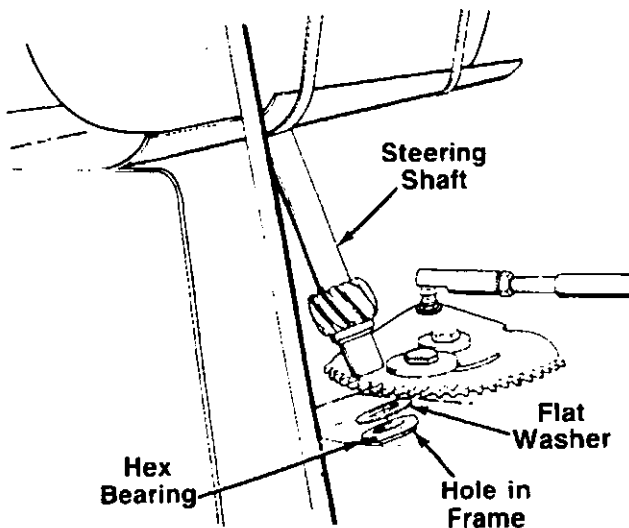

FIGURE 5.
- ← 2. Insert the hex bearing into the hole in the frame shown in figure 5.